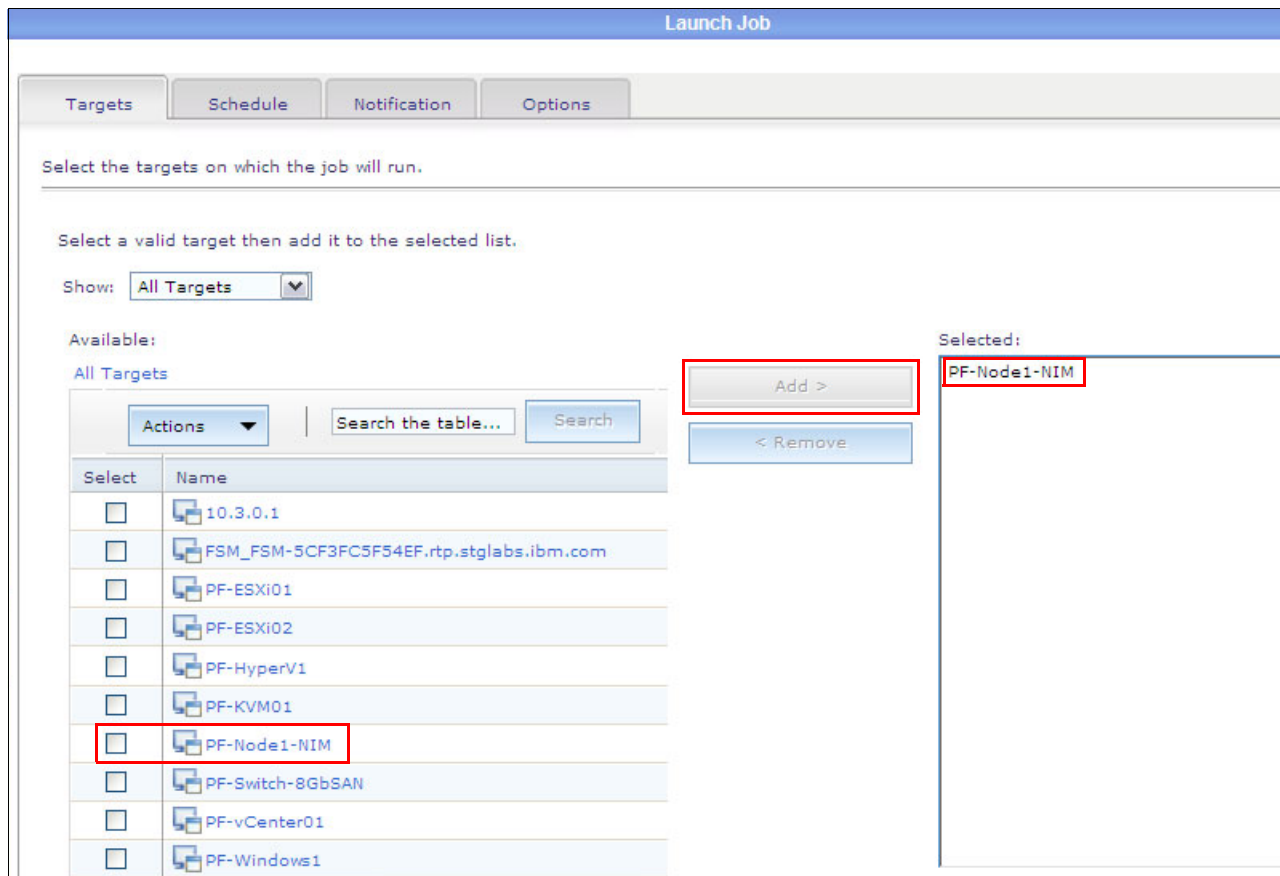

Figure 10-58 Creating the image repository
12. Select the NIM server to use as the repository, as shown in Figure 10-58.